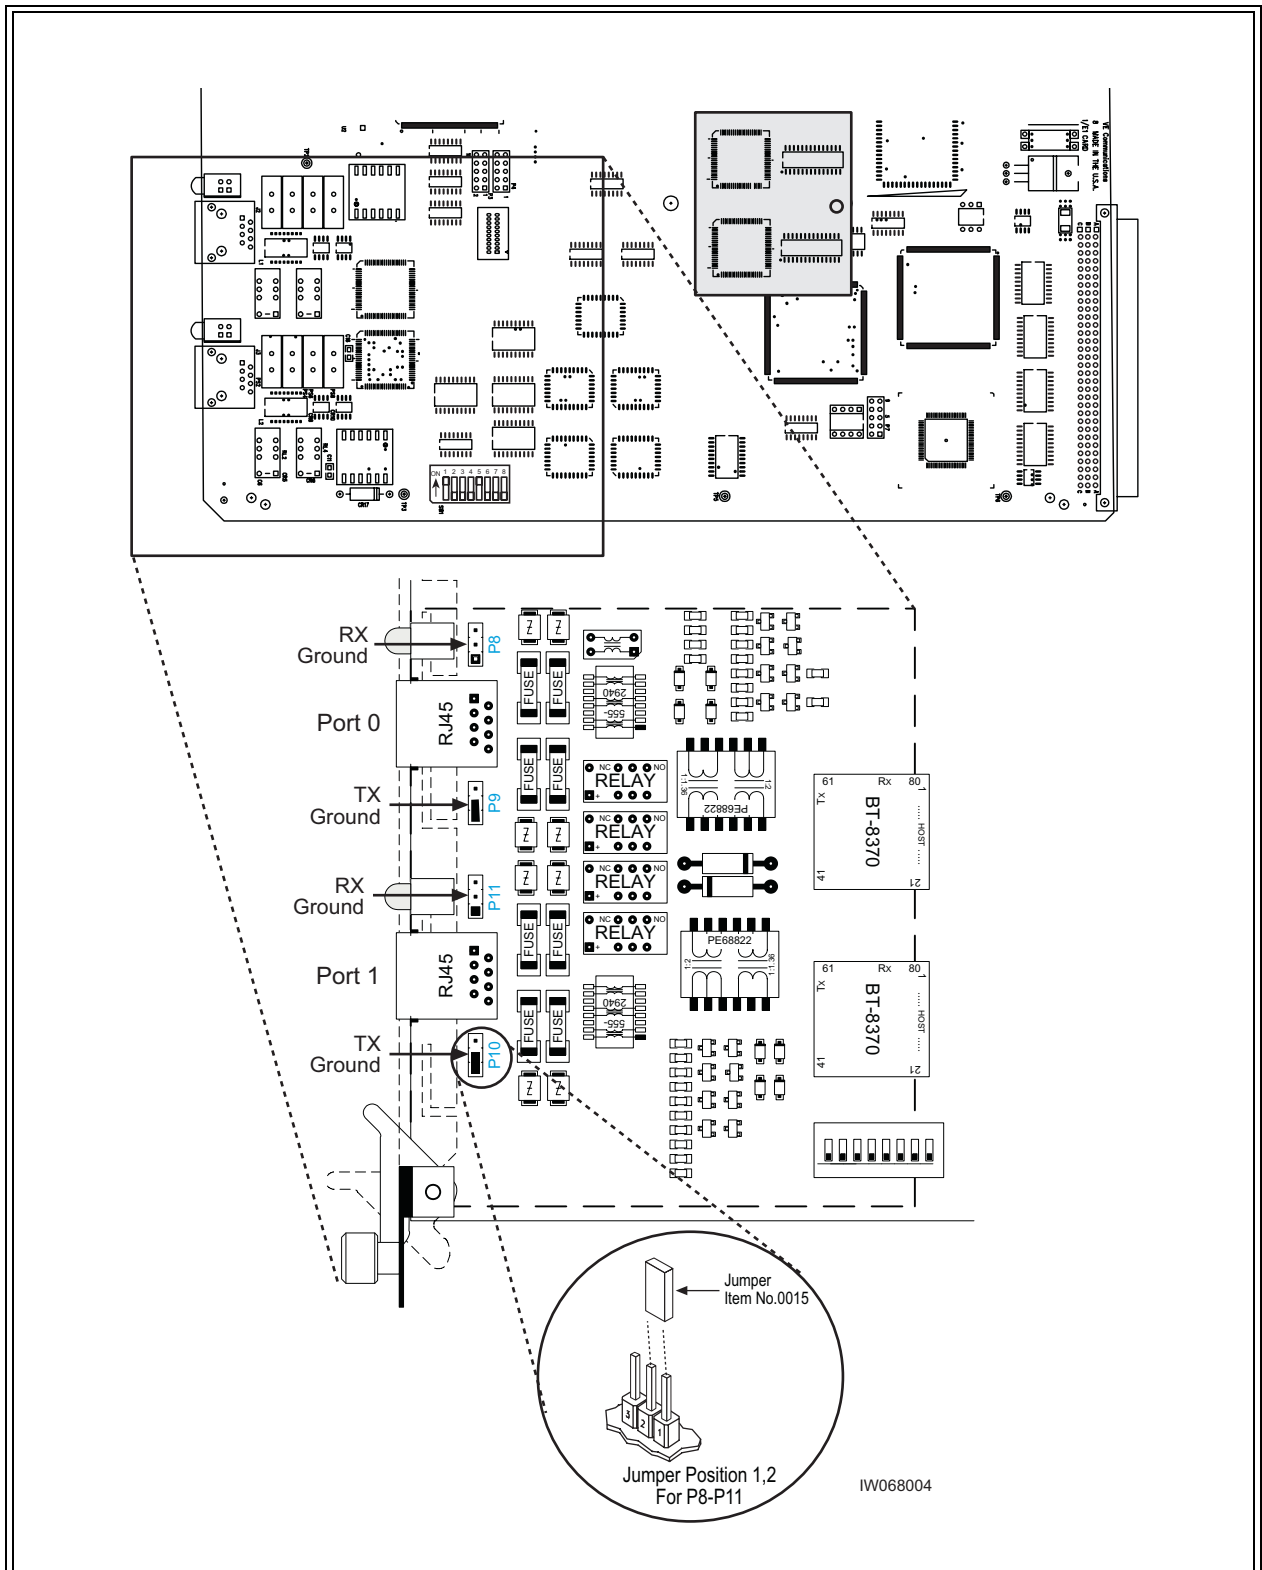

Figure 2-5 Ground Jumpers (P8 through P11)
- 5 See Figure 2-5 to locate jumpers P8 through P11.
Figure 2-5 shows the location of the grounding jumpers